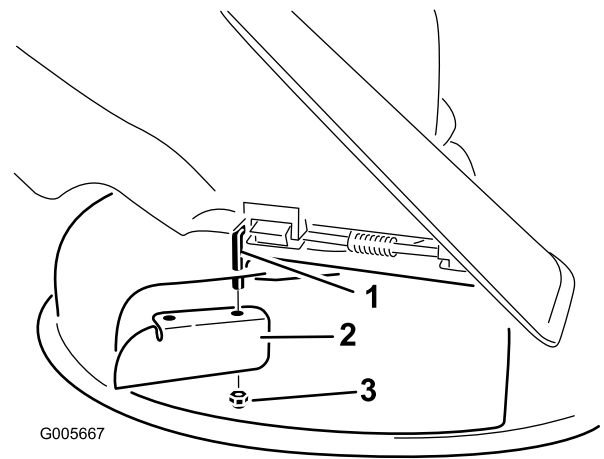

Figure 23
3. Remove the cutoff baffle from the mower deck (Figure 23).
7. Install the cutoff baffle to the exposed pivot rod (Figure 23).